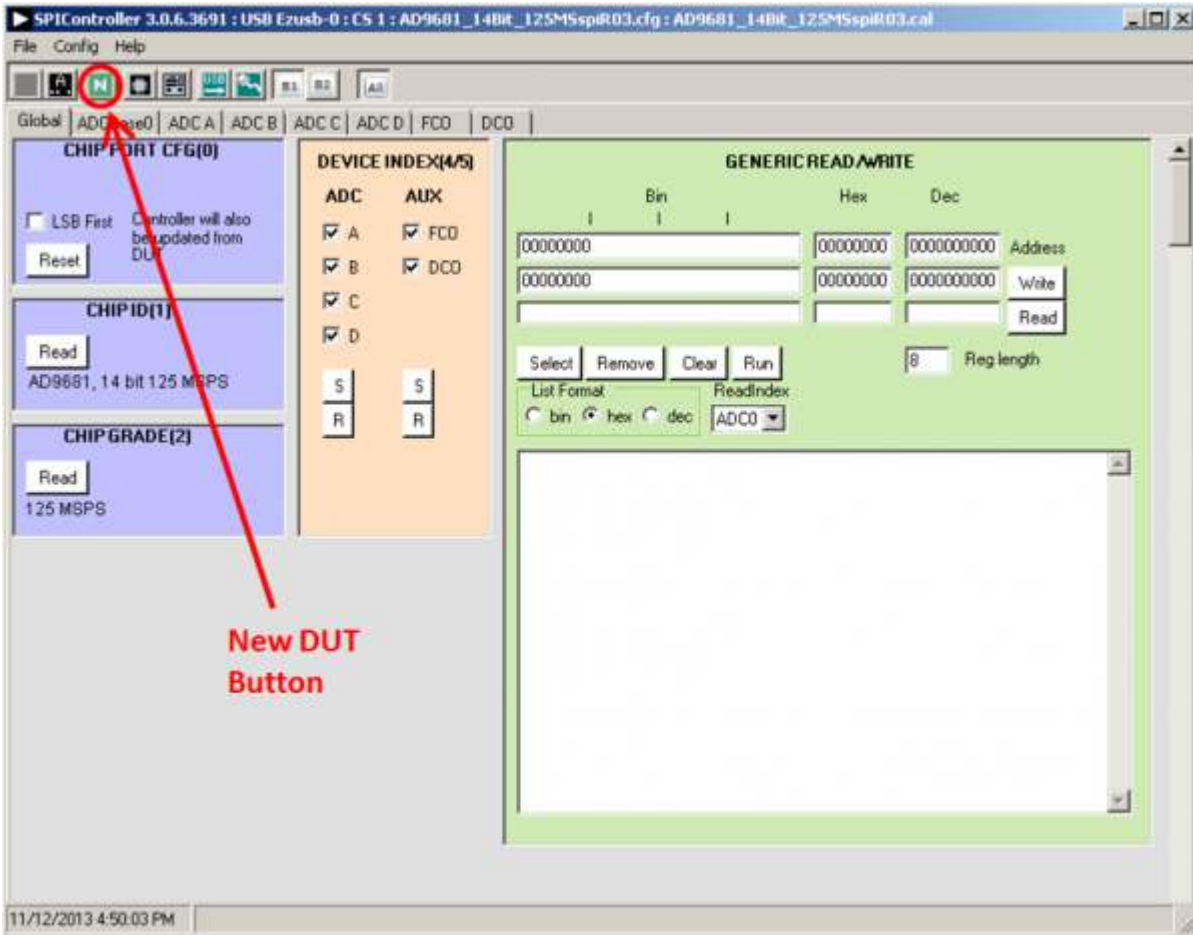

Figure 8.
2. Click the **New DUT** button in the **SPIController** window (see Figure 8)